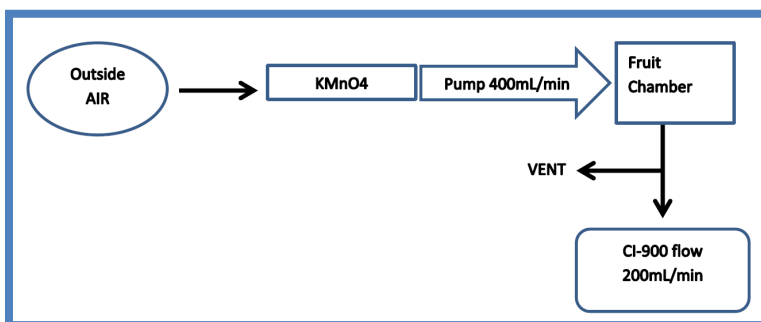

Figure 25: Set-up for fruit chamber using (KMnO4) to scrub ethylene from the outside air.
2. Connect experimental setup as shown in Figure 25.